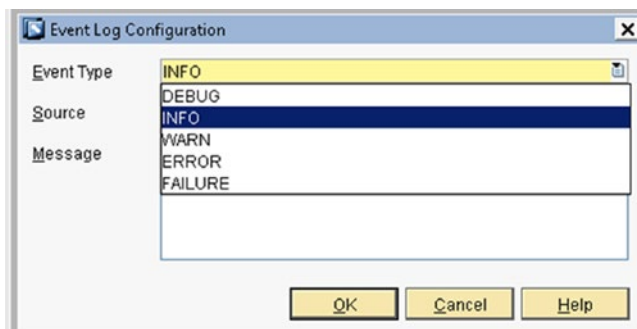

Figure 6-53. Event types in Event Logger
- **EventType:** Defines the type of the event that you want to log in NetWeaver, as shown in Figure 6-53.